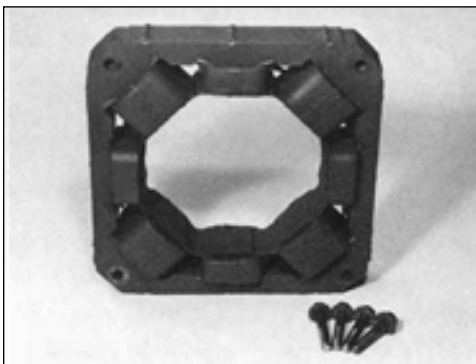

Figure 6-22
1. Clean dust and dirt from the exciter armature and rectifier assembly (see figure 6-22 and section 5).